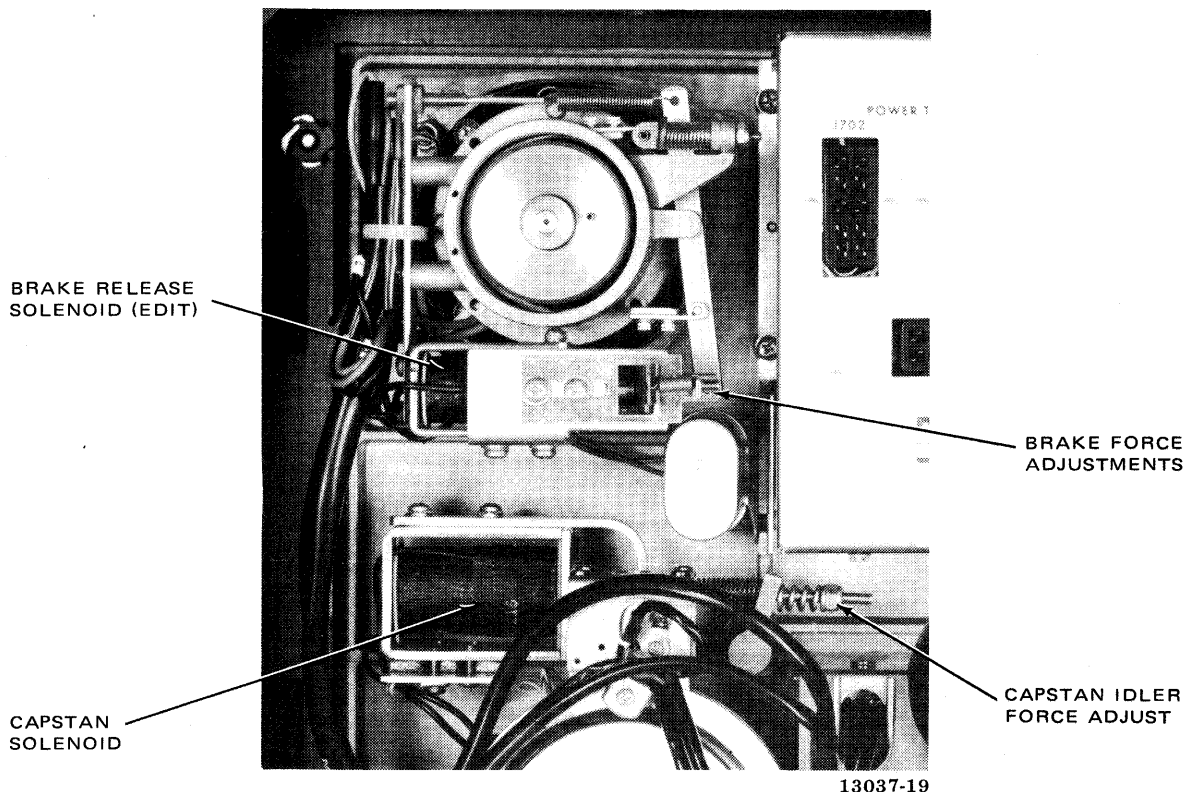

Figure 5-6. Capstan Idler Adjustment
The capstan idler force against the moving capstan is determined by the capstan idler solenoid spring. The force is adjusted by a lock nut on the capstan idler solenoid spade bolt shown in Figure 5-6.
6. Adjust the spring tension nut (Capstan Idler Force Adjust of Figure 5-6) for 9 lbs $\pm 1/2$ lb (3.9 to 4.3 kg).